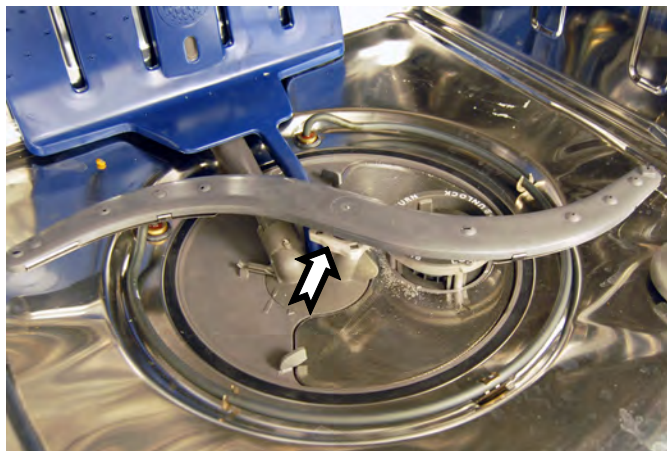

Figure 1
1. Lower spray arm nut location, see figure 1.